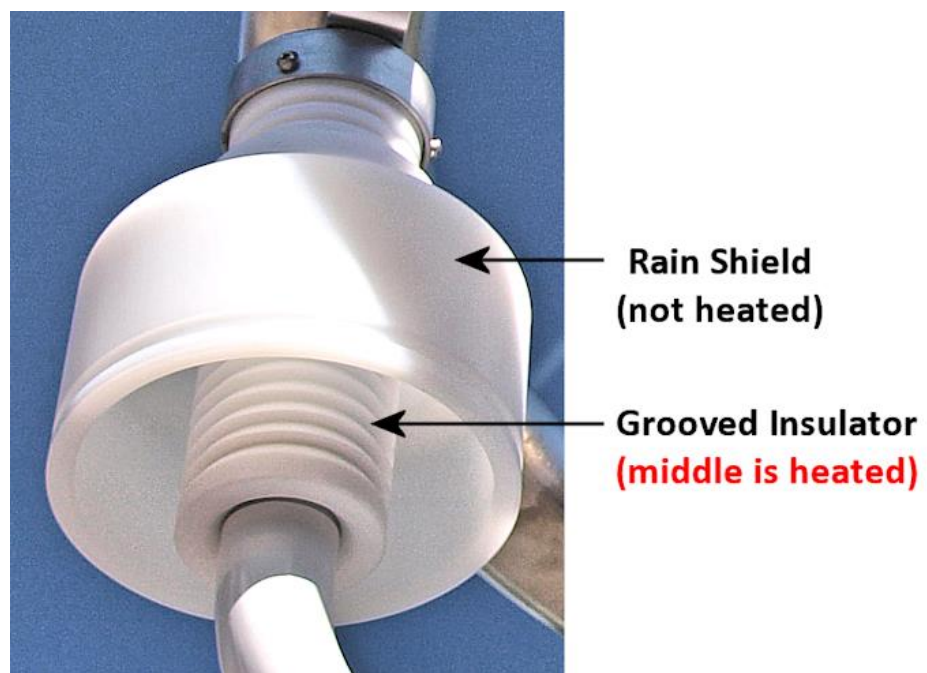

Figure 14: Antenna insulator unit (BTB-300 shown)
- If possible, check the insulator heaters are still operating by identifying that the temperature near the middle of the grooved insulator cylinder behind the rain shield is at least 1°C (typically 5°C) warmer than the surrounding air temperature. A picture showing the location of the inner grooved insulator block is provided in Figure 14.